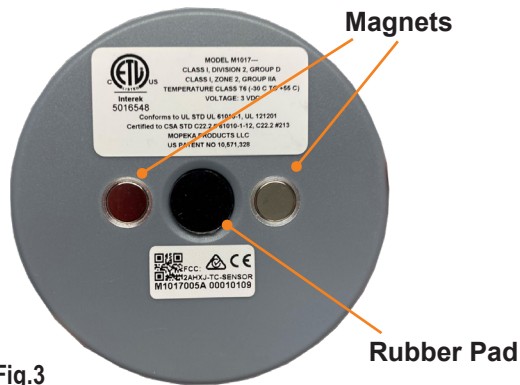

Fig.3
- Apply the provided Sonic Grease directly to the rubber pad on the center of the sensor before attaching to the tank (Fig.3).